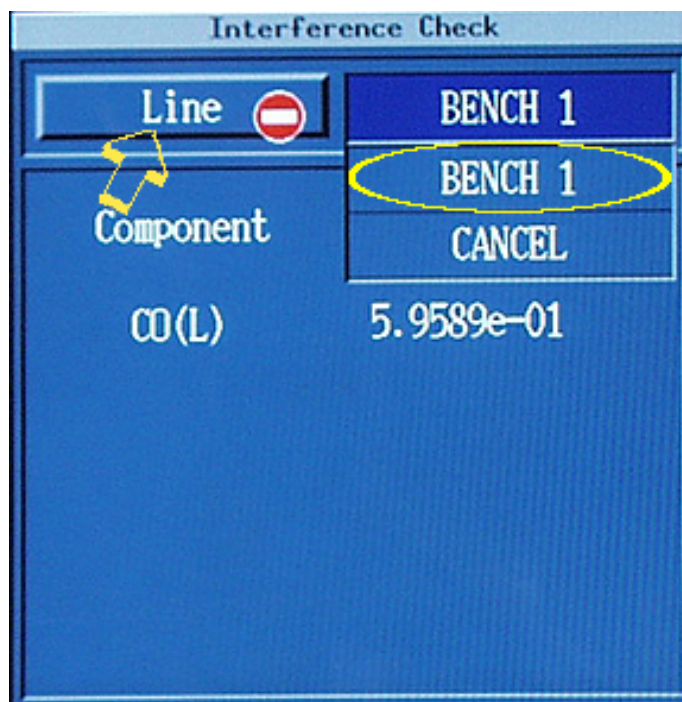

Figure 5
- 103 The “Interference Check” sub-panel will appear. If the bench to be used for testing is not selected on the sub-panel, click on the “Line” button. See arrow in Figure 5. From the menu items that appear, click on the appropriate analyzer bench. See circle in Figure 5.